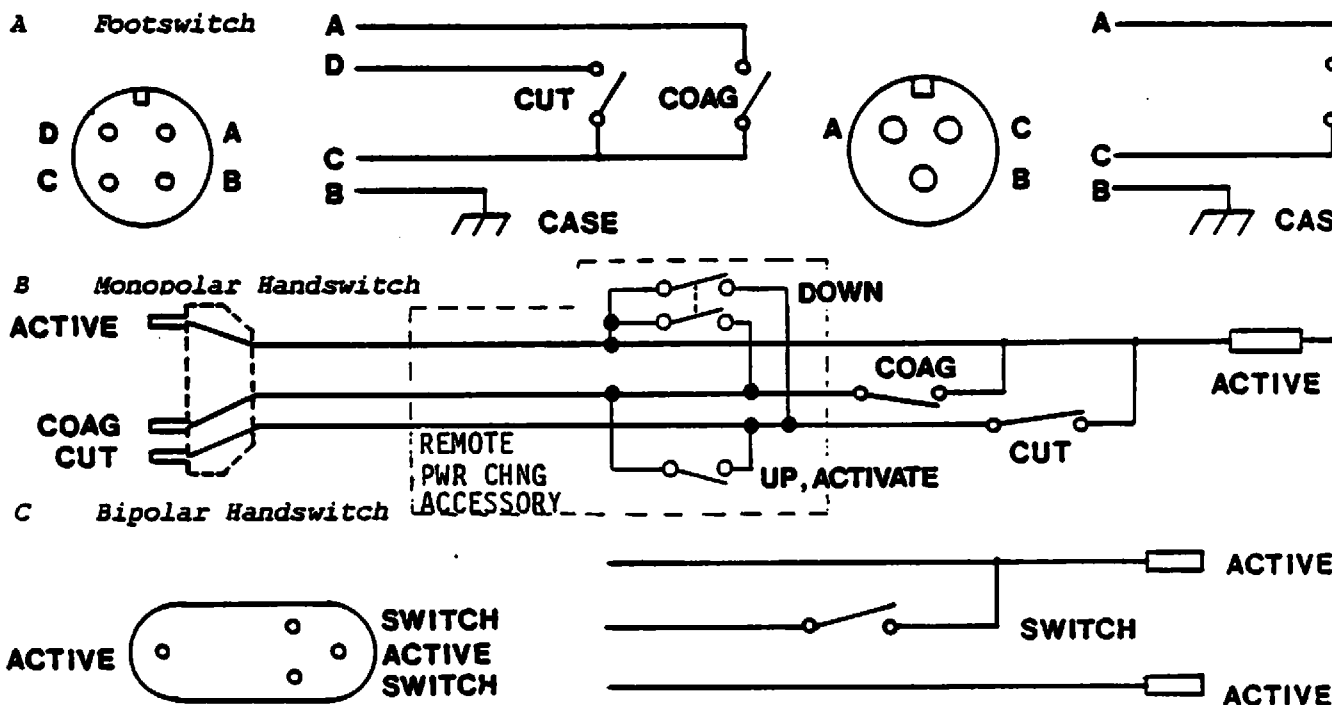

FIGURE 3
B. One of two COAG mode indicators is illuminated to show the COAG power waveform. Select by pushing one of the mode selector push buttons (15,16; Fig. 3)
This lamp will be illuminated and the audio will 'bong' once when the remote power change feature is activated at the handswitching accessory. When the lamp is on, remote power changes can occur. The lamp is turned off by switching to standby (1, Fig. 3).
REAR PANEL CONTROLS AND CONNECTORS (SEE FIG. 3)
This 4-pin MS-type receptacle accepts the two-treadle footswitch connector. The wiring diagram is shown in Fig. 3.A.